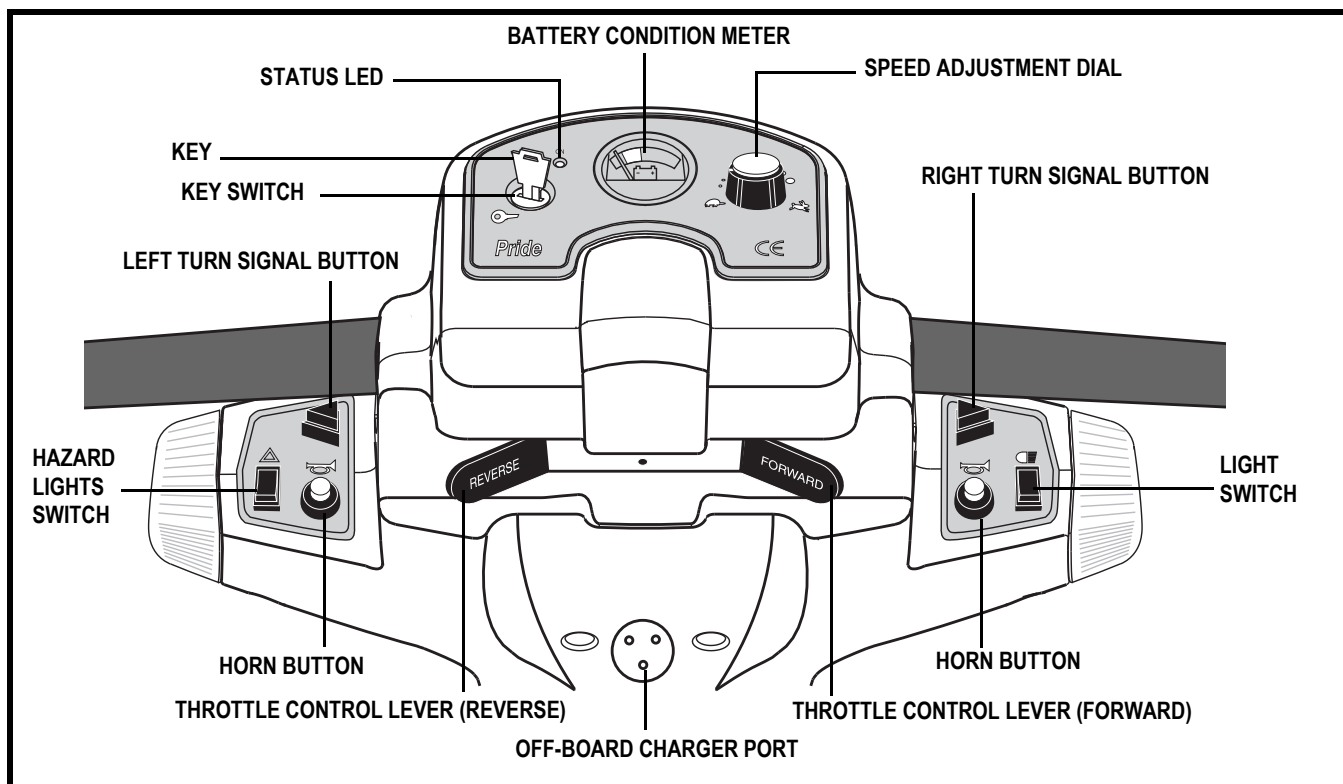

Figure 5. Control Console Assembly
The control console assembly houses all of the controls you need to drive your scooter, including the key switch, speed adjustment dial, status LED, throttle control lever, battery condition meter, horn buttons, light switch, turn signal buttons, off-board charger port, and the hazard lights switch. See figure 5.
4. Plug the 3-pin charger power cord into the off-board charger port. **See figures 5 and 9.**